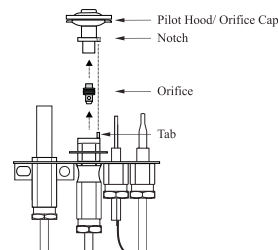

Figure 4. The Pilot Assembly, with cap off. The pilot hood will snap off; the orifice must be removed with an allen key.
9. Remove pilot hood/ orifice cap by pulling it off the pilot assembly. The cap will snap off with slight pressure; the orifice must be removed with an allen key. (See Figure 4)